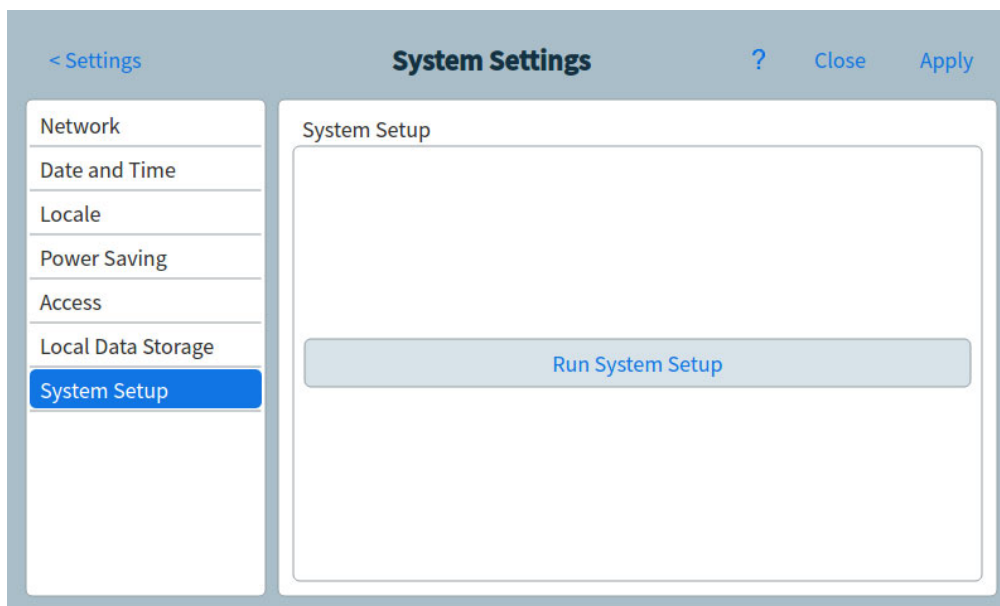

Figure 52. System Setup page
- 1 From the System Settings page, select the **System Setup** page selection button. The System Setup page appears. See Figure 52.